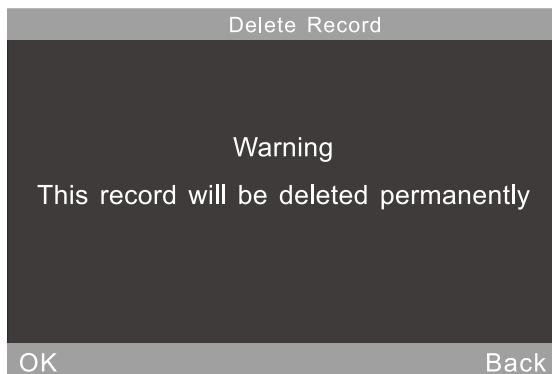

Figure 22 Warning for Deleting Record
**Delete Record:** Click “Delete Record”, it will pop up a warning interface as shown in figure 22. Click “OK”, the selected record will be deleted. Click “Back” to give up the current operation.